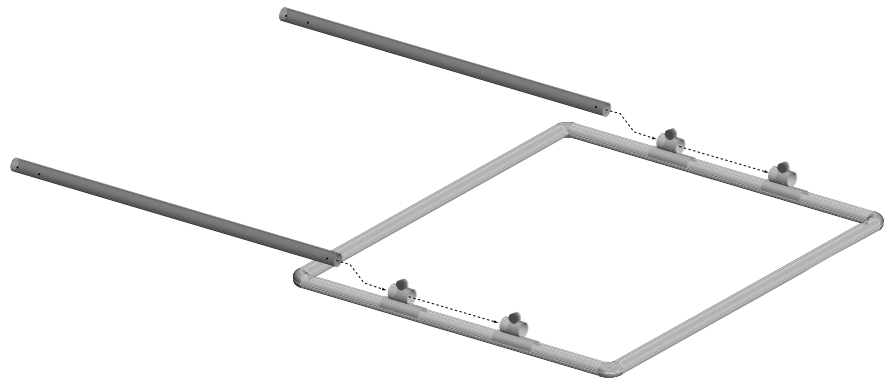

Figure 6. Inserting support posts
1. Insert upright support posts into screen frame brackets and tighten. Refer to Figure 6.